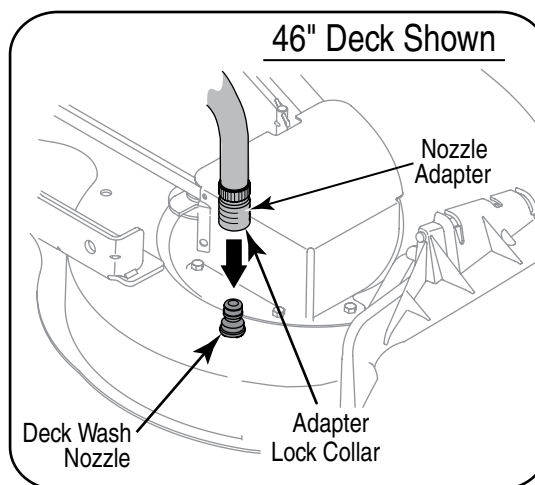

Figure 21
- Pull back the lock collar of the nozzle adapter and push the adapter onto the deck wash nozzle at the left end of the mower deck. Release the lock collar to lock the adapter on the nozzle. See Figure 21.